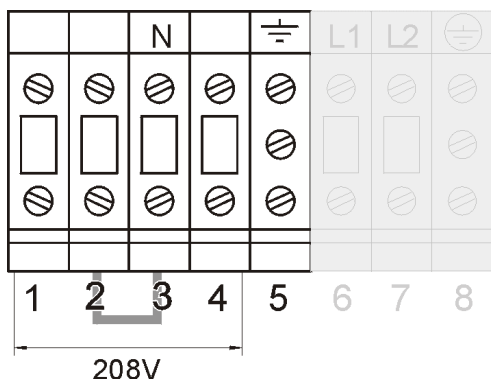

Figure 11. LP 5/6/8/10-11U:
2. Connect the ground wire to terminal 5. Ground connection is essential! See figure 11.